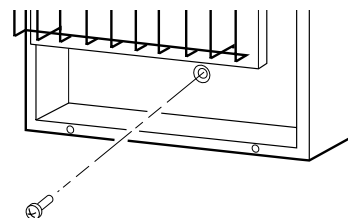
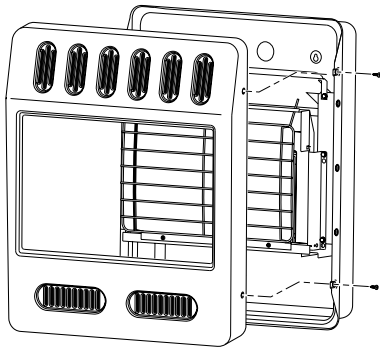

**Figure 11 - Removing Front Panel Of Heater**
Figure 14 - Removing Front Panel Of Heater
1. Remove front panel of heater [for 10,000 Btu/Hr (2.9 KW) heater, see Figure 11 page 9 or for 20,000 Btu/Hr (5.9 KW) heater see Figure 14, page 10].